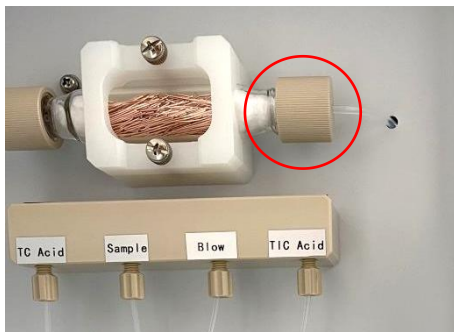

Fig.6.28
2) Unscrew the nut on the right of the halogen removal tube and remove the nut referring to (Fig.6.28)